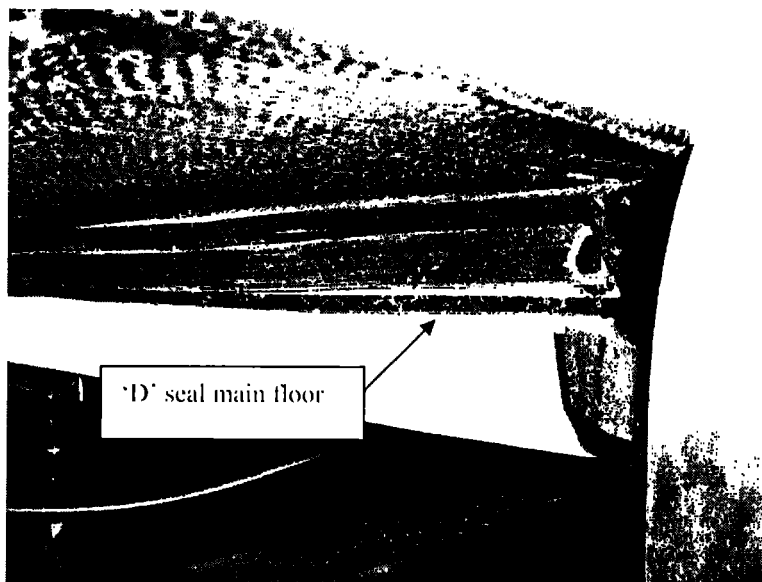

Fig. 5
Step 12 Add 'D' seal on edge of main floor as shown (fig 5)